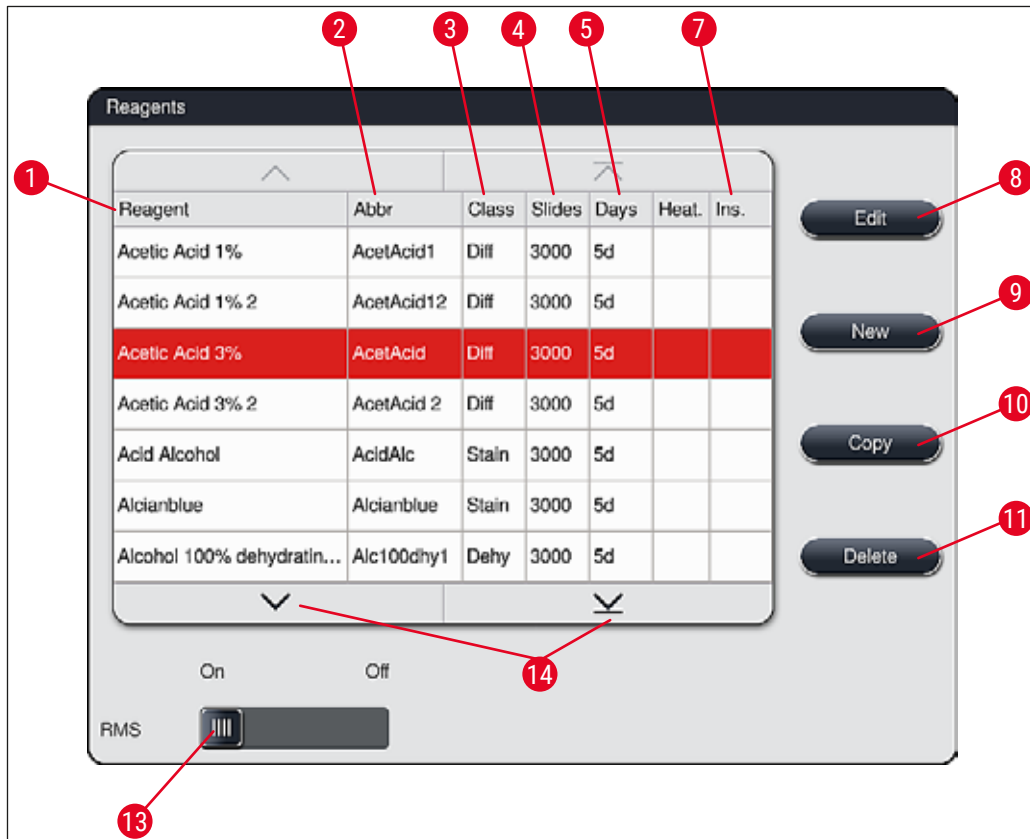

Fig. 36
- Select the reagent to be copied in the reagent list (→ "Fig. 36") by tapping it and press the **Copy** (→ "Fig. 36-10") button.
- Select the reagent to be changed in the reagent list (→ "Fig. 36") by tapping it and press the **Edit** (→ "Fig. 36-8") button.